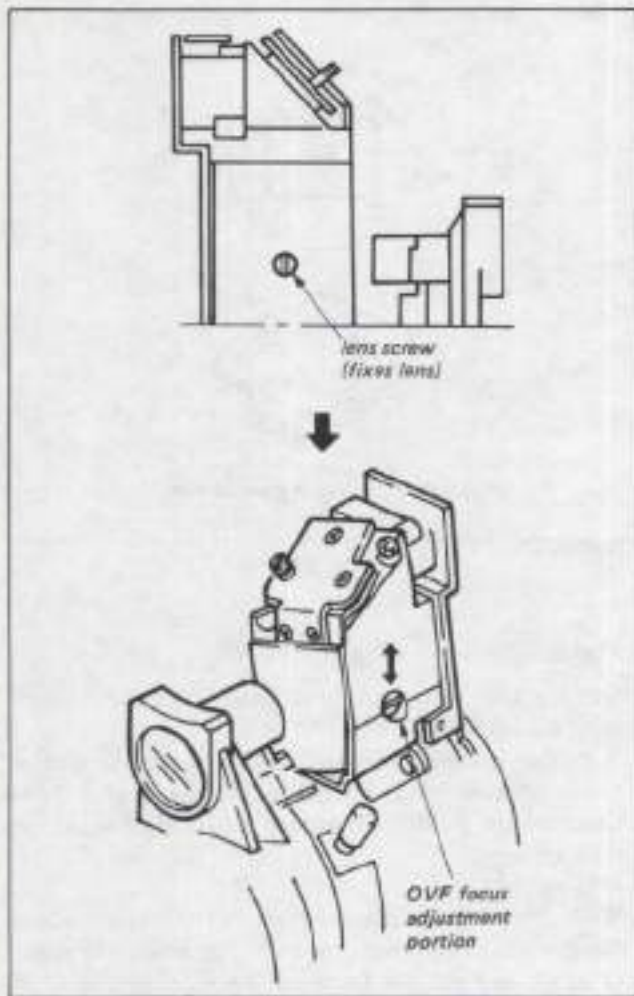

Fig. 2-39
1. Perform visibility adjustment. (Fig. 2-39)